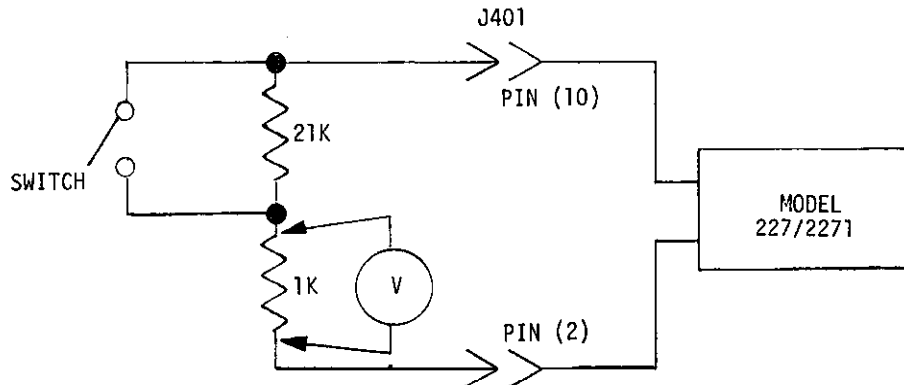

FIGURE 29. Test Set-up for Model 227/2271 Calibration.
1. Connect test set-up as shown in Figure 29.